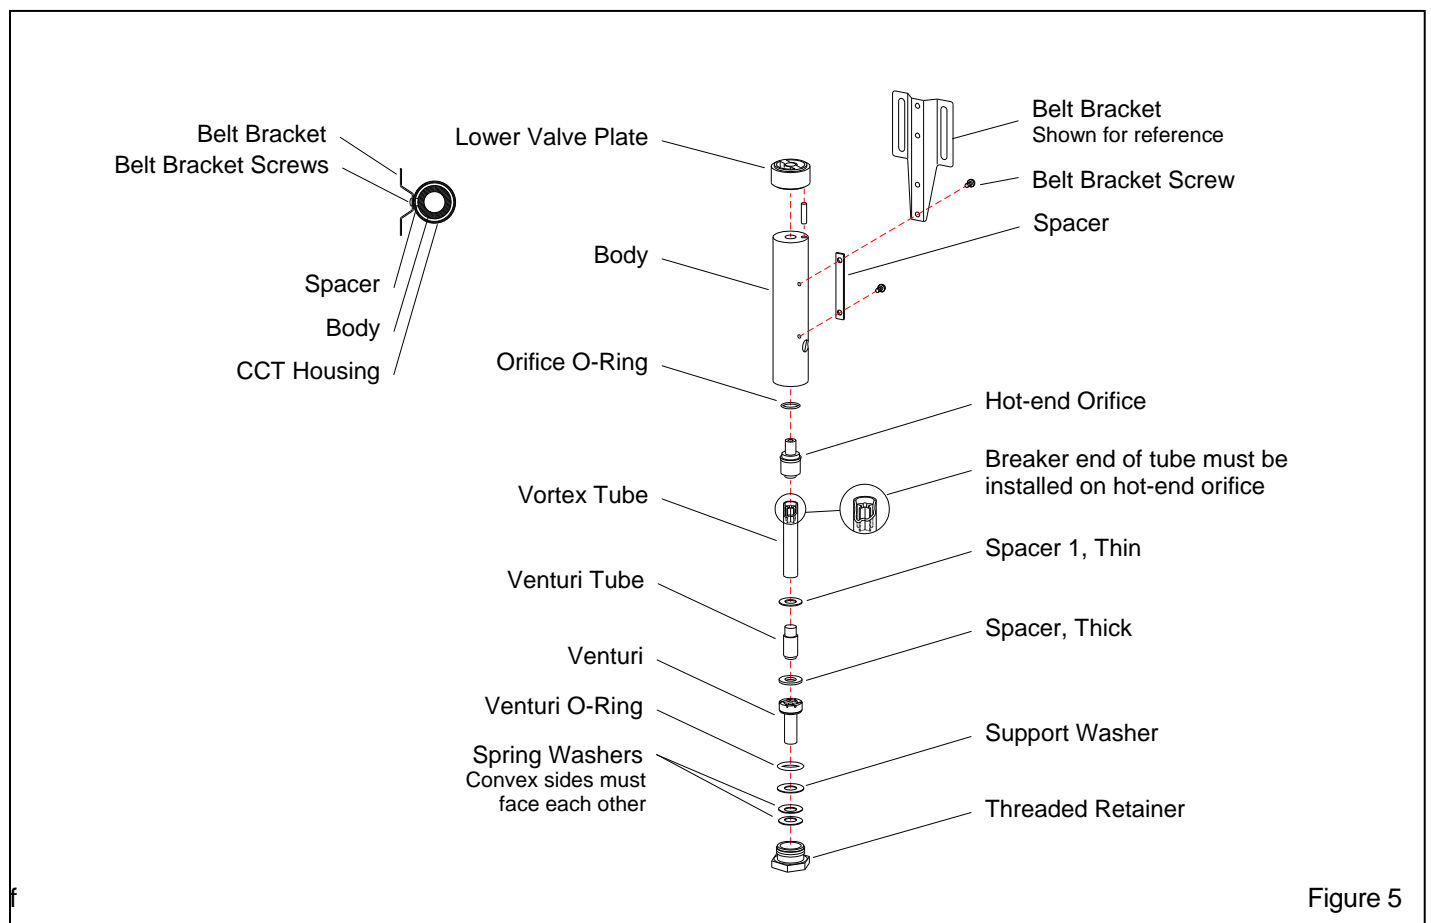

Figure 5
### 5.3 Second Stage Service, Refer To Figure 5.
**5.3.17** Hold body assembly with hot end up as shown in Figure 5. Place pin into body assembly and place the lower valve plate onto body assembly over the pin. NOTE: The lower valve plate is identified by the smooth outer surface; the upper valve plate has three holes in the outer surface.